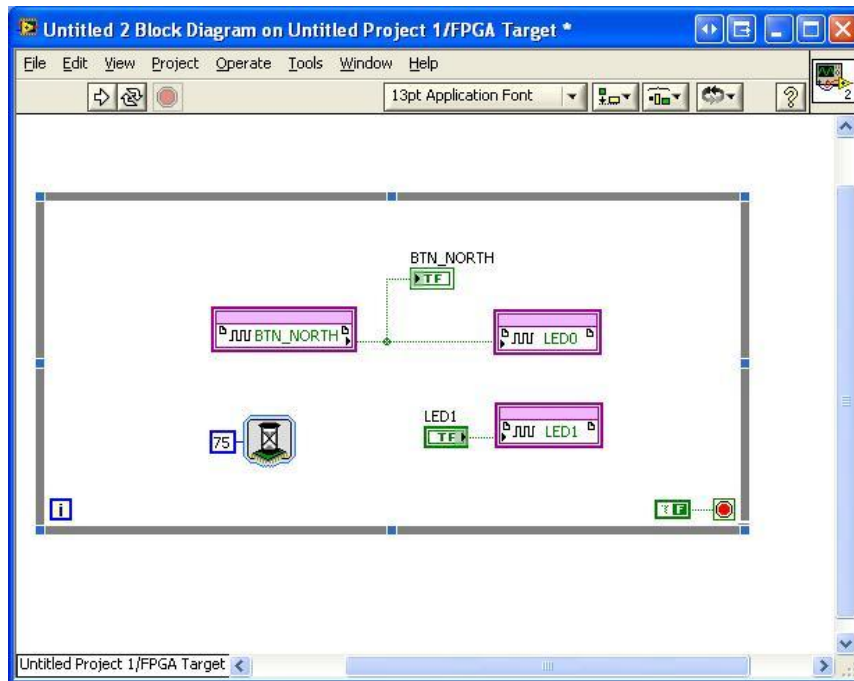

Figure 14: FPGA VI
7. Drop a Wait function in the While Loop. The Wait function is located on the **Functions** palette under **Programming»Timing**. In the dialog, change the **Counter Units** to msec. Click the **OK** button. Wire a constant of “75” to the Wait function. Your FPGA VI should look similar to Figure 14. Save your FPGA VI as “FPGAVI”.